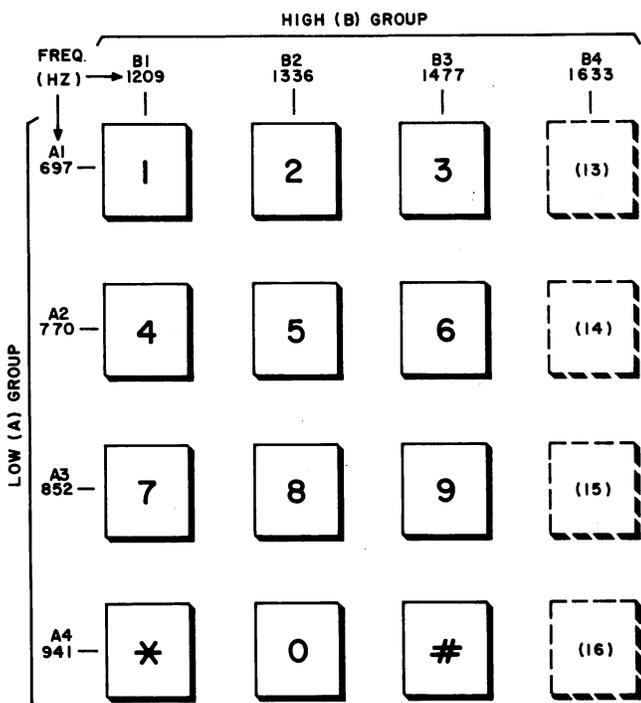

Fig. 7—TOUCH-TONE Dial Frequency Assignments
TOUCH-TONE transmission code. The transmission code consists of two groups of frequencies, a low group and a high group, each containing four frequencies. These frequencies are grouped and designated as shown in Fig. 7.
3.06 The receiver detects the TOUCH-TONE signals at a maximum rate of ten characters per second. A character consists of one frequency from each group shown in Fig. 7. Therefore, the two-out-of-eight code provides 16 different frequency pairs (characters). Data sets 407AR and 407BR recognize all of these characters.